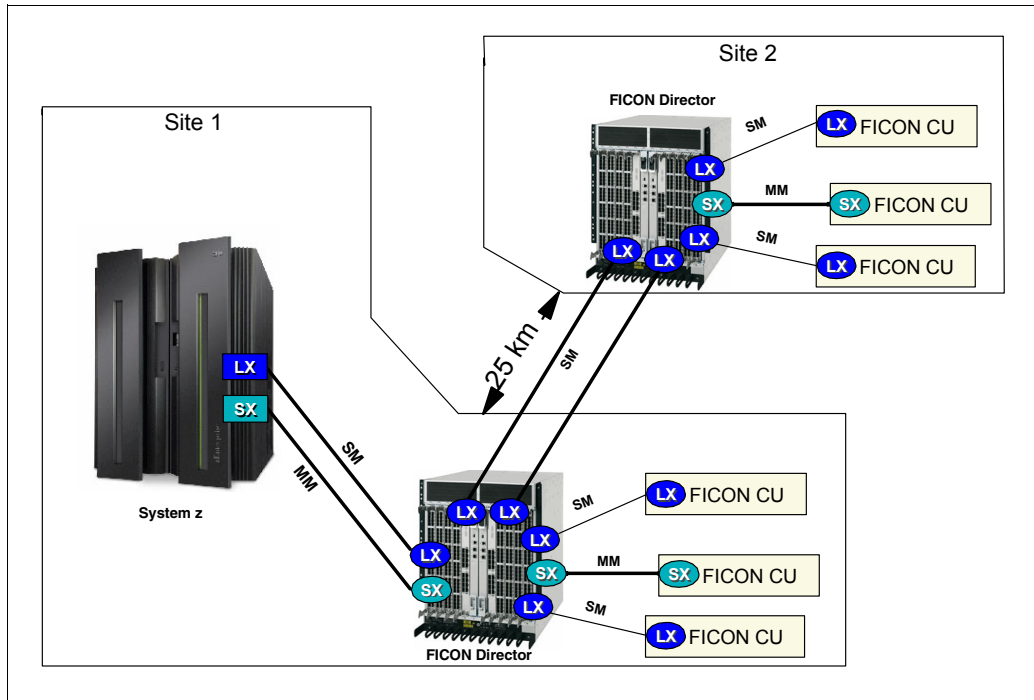

Figure 4-4 FICON Director media intermix
A FICON channel path through one or two FICON Directors consists of multiple optical fiber links. Each link in the channel path can be either long wavelength (LX) or short wavelength (SX), allowing the channel path to be made up of an intermix of link types as illustrated in Figure 4-4 on page 88.